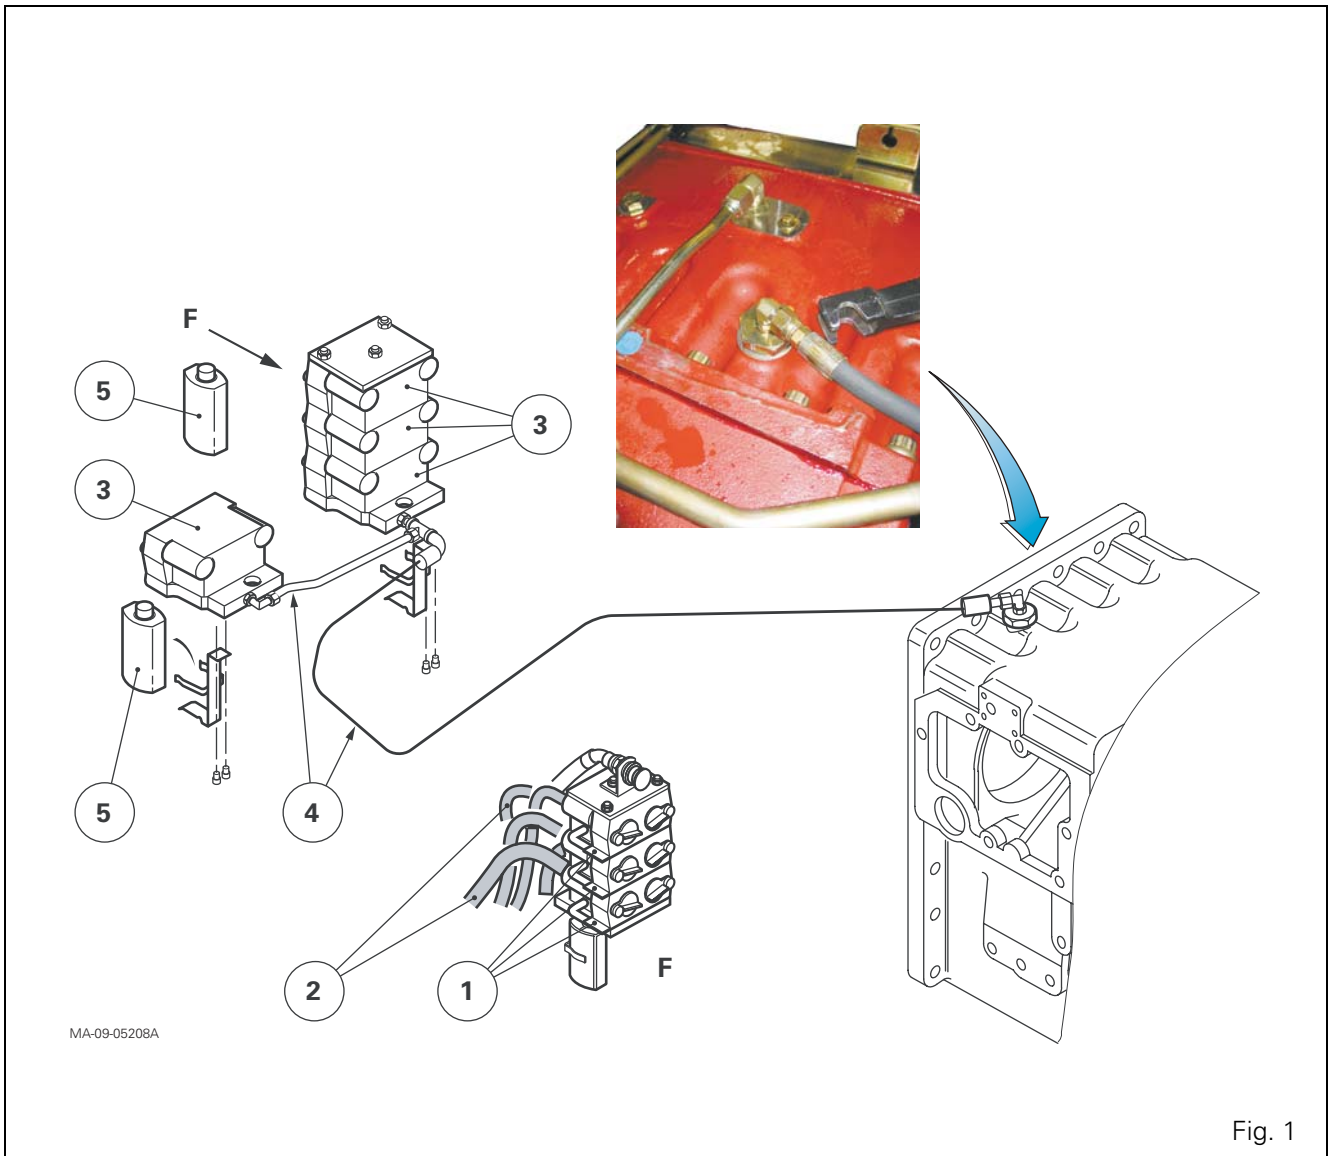

Fig. 1
- The pins (2) must be fitted with the threads slightly smeared with Loctite 241 or equivalent.
- Figures 1 to 3 in the dark circles show the assembly order of the levers which control the spool valves.
- The friction washers (1) are smeared with molybdenum sulphide grease before assembly.
- The nuts (3) must be tightened so as to obtain a slight resistance for the levers during operation.
Couplers (Fig. 1)